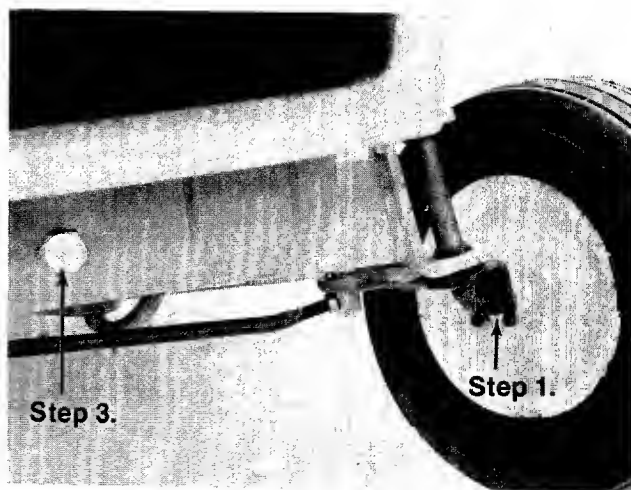

FIGURE 27.
1. Front Wheel Bearings (4)—Lubricate with light oil once a season. See figure 27. A 4 oz. plastic bottle of light oil lubricant is available. Order part number 737-0170. Engine oil may also be used.
3. Pivot Bolt—Lubricate with light oil once a season. See figure 27.